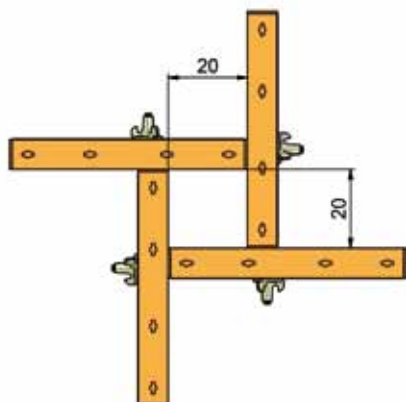

fig.2
- The adjustable modular column formwork by PASCHAL is a steel frame formwork whose elements are assembled according to the so-called windmill principle (fig. 2 - 4).